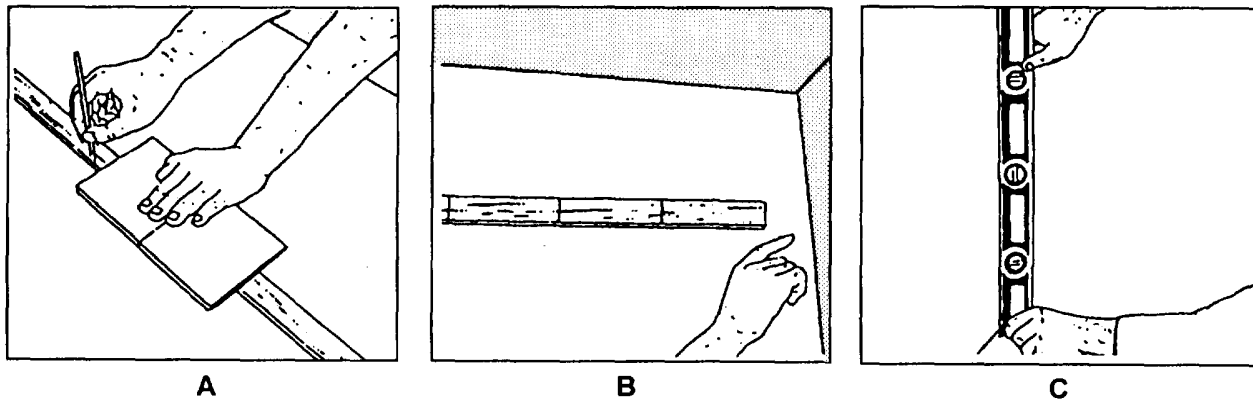

Figure 7-26.-Layout for installing ceramic wall tile.
3. Use a tile-measuring stick (fig. 7-26) to determine the position of full-width tiles in such a way that fractional tiles at each corner or edge are equal.
After determining fractional tiles, use a piece of scrap wood from 36 inches to 48 inches in length to mark up a tile-measuring stick (fig. 7-26, view A). Mark off a series of lines equal to the width of a tile. Lay this stick on the wall and shift it back and forth to determine the starting point for laying the tiles. Make sure the fractional tiles at the end of each row are of equal widths (fig. 7-26, view B).
Use a level to establish a line perpendicular to the horizontal starting line (fig. 7-26, view C). At both ends of the horizontal line, draw vertical lines to form the squared-off area. To make the tile application easier, you can fasten battens to the wall on the outside of the drawn lines.